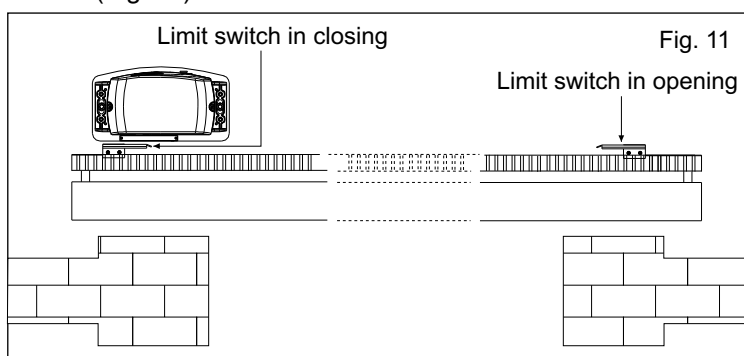

Fig. 11
6.1. In order to install and adjust the limit switch in opening, follow the below mentioned instructions (Fig. 11):
6.2. In order to install and adjust the limit switch in closing, follow the below mentioned instructions (Fig. 11):